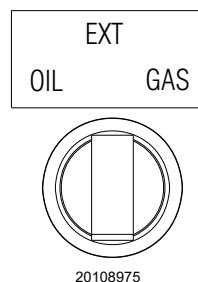

Fig. 31
- Select the fuel by positioning the selector (Fig. 31) to "OIL".